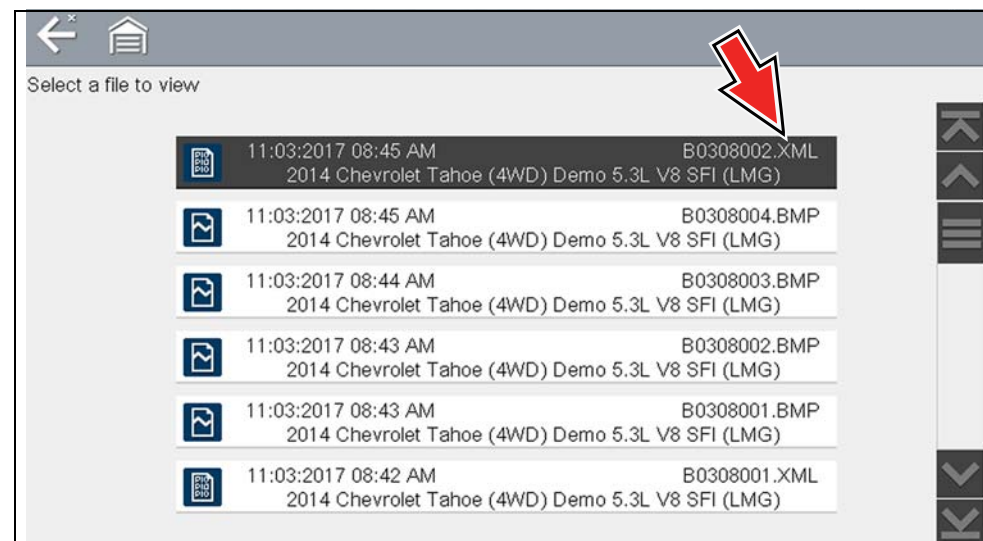

Figure 13-3 Typical - Code Results (.XML) file
When code scan or single system code results are saved, they are saved in (.XML) file format (Figure 13-3).
3. Select the code scan report .XML file from the list to view the file (Figure 13-3).